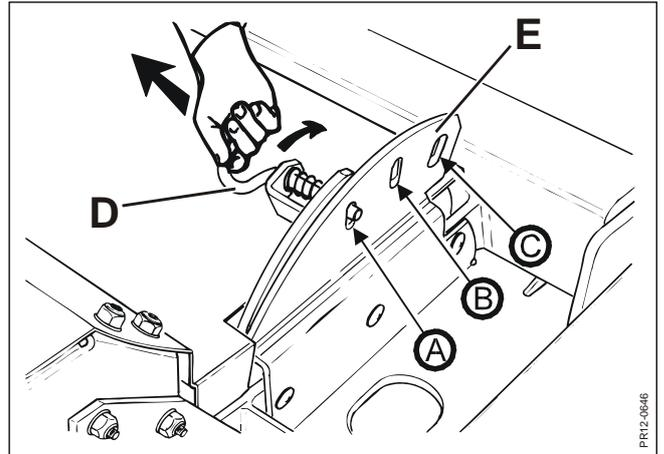

Fig. 3-23
Fig. 3-23 The system is operated by the handle **D**, which can be placed in 3 positions on the bracket **E**. The distance of the conditioner plate to the rotor is changed by moving the handle **D** to one of the other holes in the bracket **E**. If the handle is positioned in pos. (A), the distance between the conditioner plate and the conditioner fingers is very small, in pos. (B) the distance is medium and in pos. (C) the distance is large.